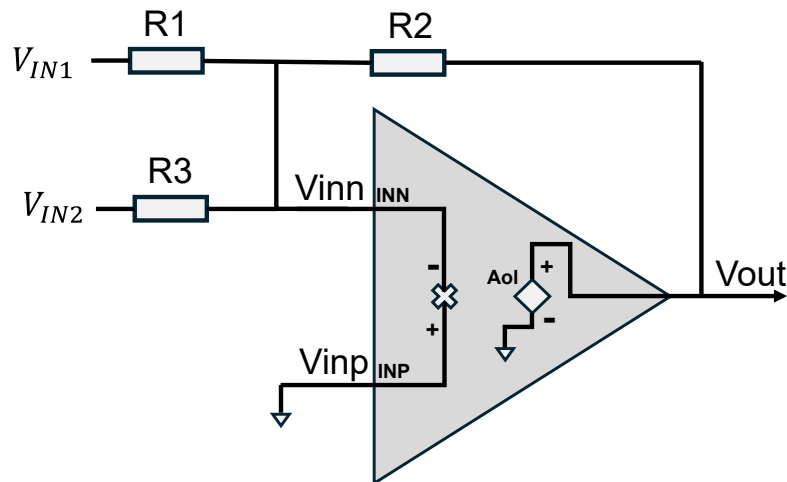

Figure 6. Voltage add circuit of OPAMP
Figure 6 shows the voltage add circuit of OPAMP. Based on the principle of OPAMP, Equation (20) is derived as follows: